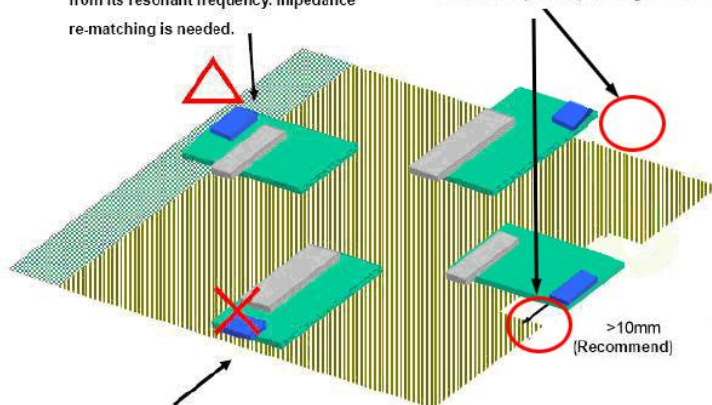

### Figure 6 Suggested Module Footprint Layout
The figure 5 shows the proper layout footprint for the module. The footprint shown by figure 6 is also fit for the PA module offered by NETVOX. The area underneath the module should be covered with a solid ground plane.
*And for greater flexibility and compatibility, the footprint shown by Figure 6 is strongly recommended to use.*